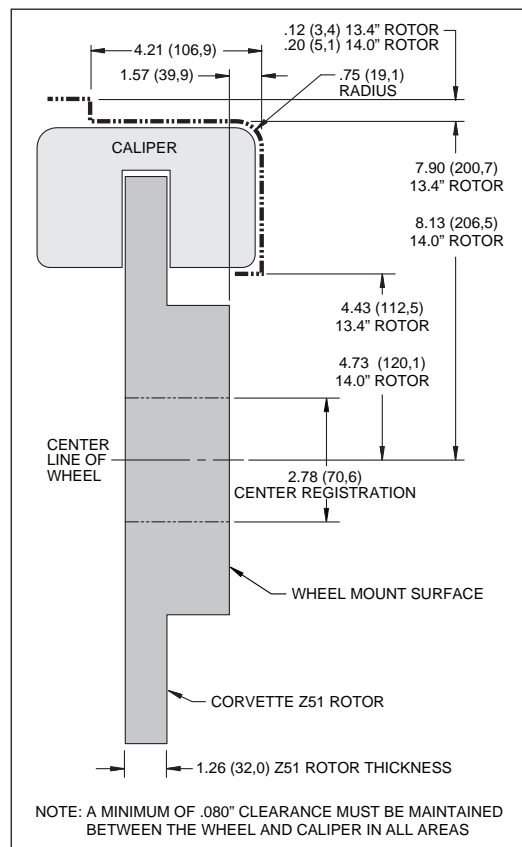

Figure 2. Wheel Clearance Diagram
- Use of this kit generally requires 18" wheels. In some cases, using the 13.38" diameter Z51 rotor may fit with 17" wheels. Please refer to the wheel clearance diagram (Figure 2, page 3) for minimum clearance requirements and compatibility with your wheels and preferred rotor size. Parts that have been installed may not be returned or exchanged.
• Make sure this is the correct kit to fit the exact make and model year of your vehicle, spindles, and wheels. This kit is designed for direct bolt-on installation to mount a Aerolite 6R caliper to all 1997-2013 C5/C6 Corvette Original Equipment (OE) production front spindles using an OE style one-piece front rotor from one of the following production models:
• **NOTE:** This kit does not fit all Corvette wheels. This kit has been verified to fit inside 18" C6 Grand-Sport and Z06 front wheels, but interference may occur with other production and aftermarket wheel styles. Wheel clearance must be verified using Figure 2.
• Verify your wheel clearance using Figure 2.